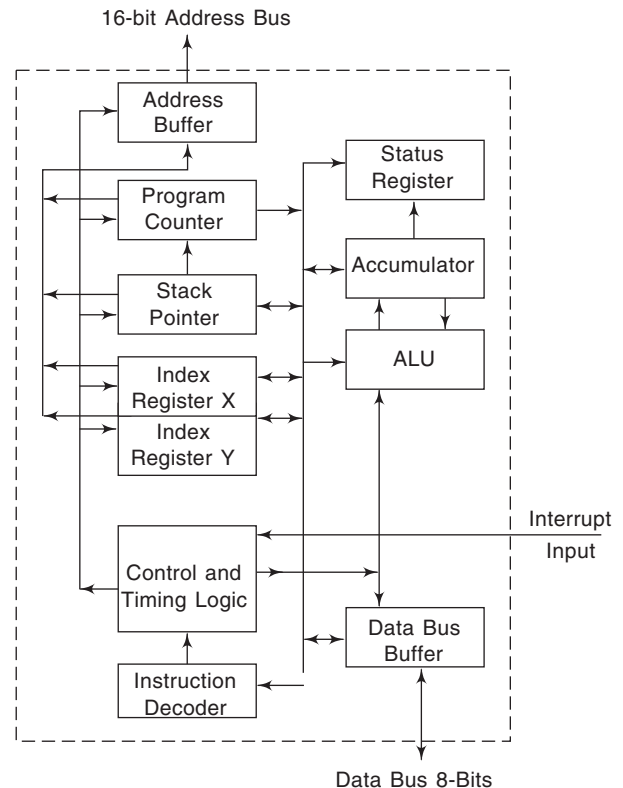

Fig. 18.3 Internal Architecture of a Typical 8-bit Microprocessor.
Figure 18.3 shows the architecture of a typical general-purpose microprocesor similar to that which might be used in a popular computer system such as the APPLE, PET or Sinclair ZX81.
18.7 What other refinements can be done to Fig. 18.3?
Another section of logic which may be shown on the architecture of Fig. 18.3 is the *clock generator* which